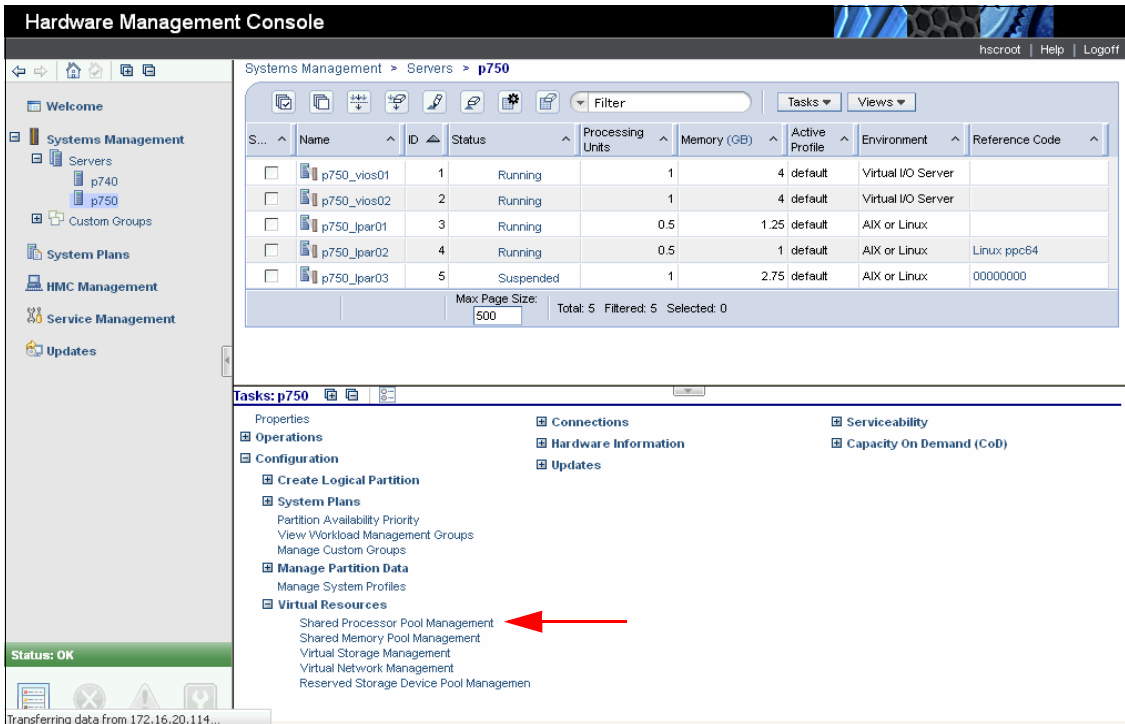

Figure 14-1 Starting Shared-Processor Pool configuration
1. Select the server for which you want to configure the pools. Then select **Configuration** → **Virtual Resources** → **Shared-Processor Pool Management** as shown in Figure 14-1 to open the Shared-Processor Pool configuration window.